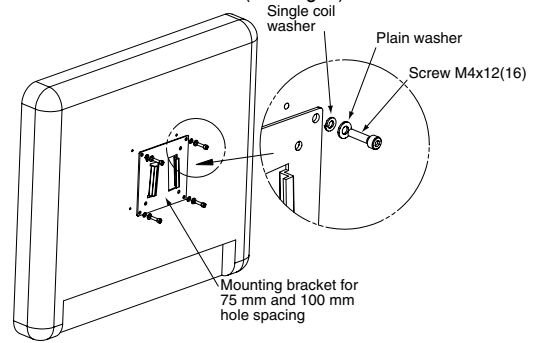

Figure 2
- ② Fasten bracket to wall, then loosen the screws one half turn and remove the bracket from the wall (leave screws).
- ③ Fasten the mounting plate to the back panel of your Flat Panel Display with the provided screws and washers (see Fig. 2).